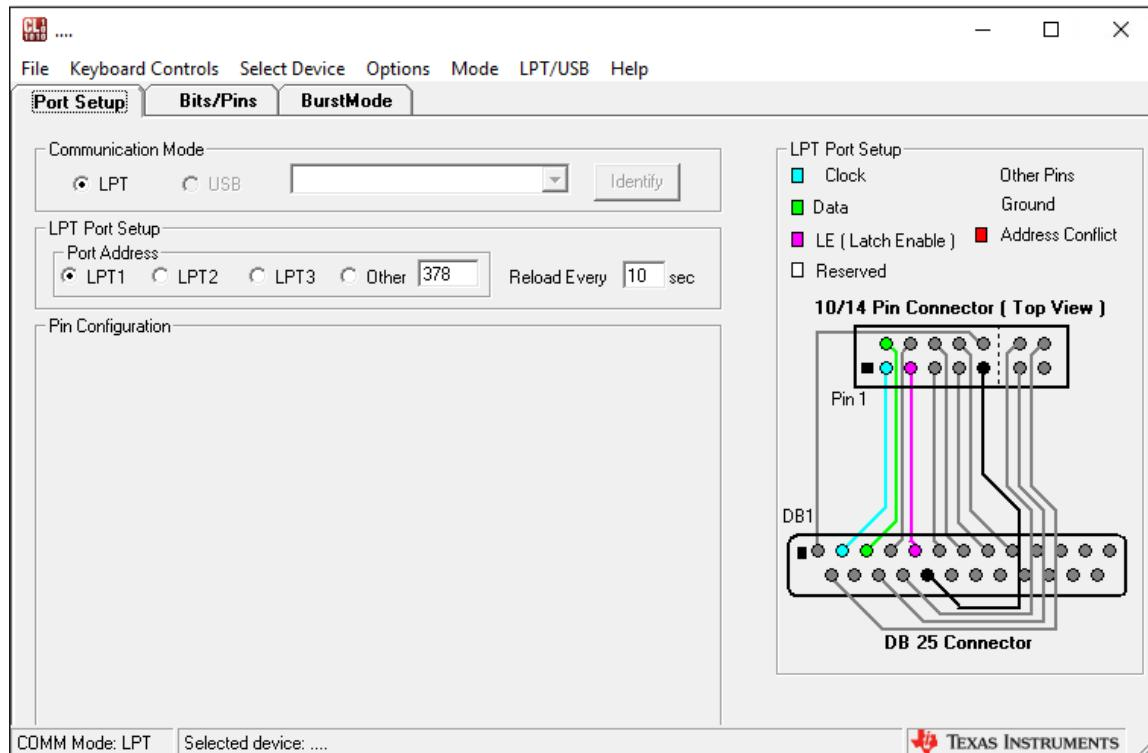

Figure 5-9 Codeloader
5. Firstly, download “CodeLoader” Software(See Figure 5-9), which is provided by TI. This tool can help users to set the LMK04096B's output frequency of each channel through the GUI interface, and it will automatically calculate the Register parameters required for each frequency. The tool download link: